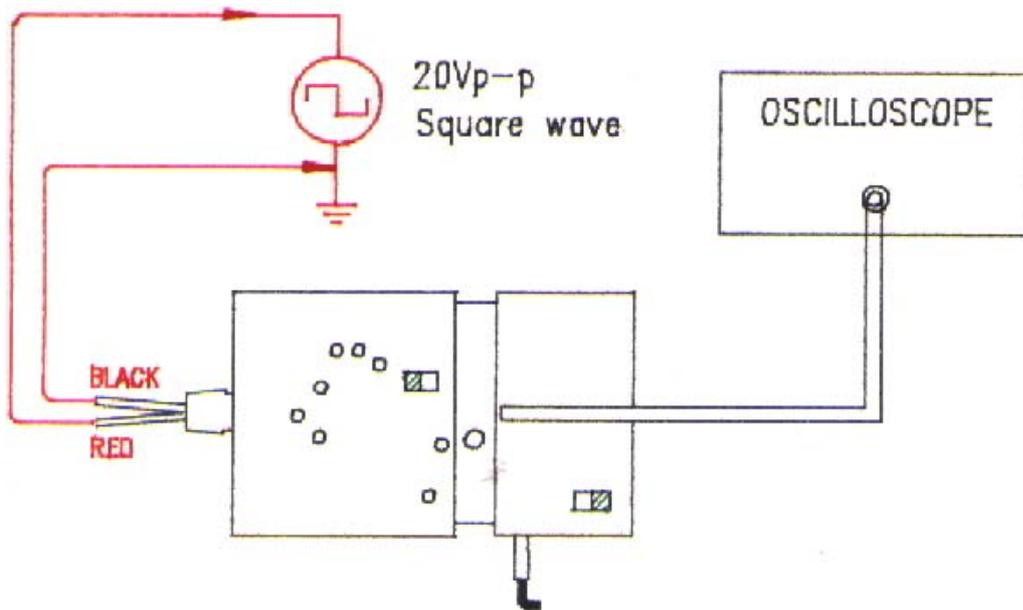

Fig. 10
- a. Referring to Fig. 10, connect output BNC to the oscilloscope has good grounding.